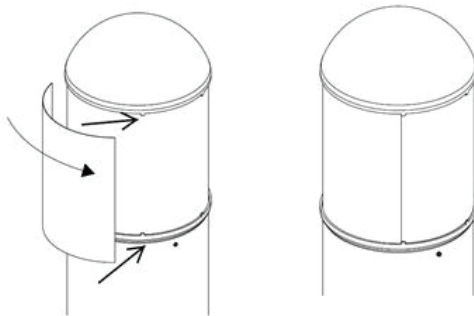

Figure 5
STEP 1: Slide the backlight shield inbetween the bollard clear optic and the bollard housing tabs (there are 3 tabs which hold the top of the shield and 3 tabs which hold the bottom of the shield). (Figure 5)